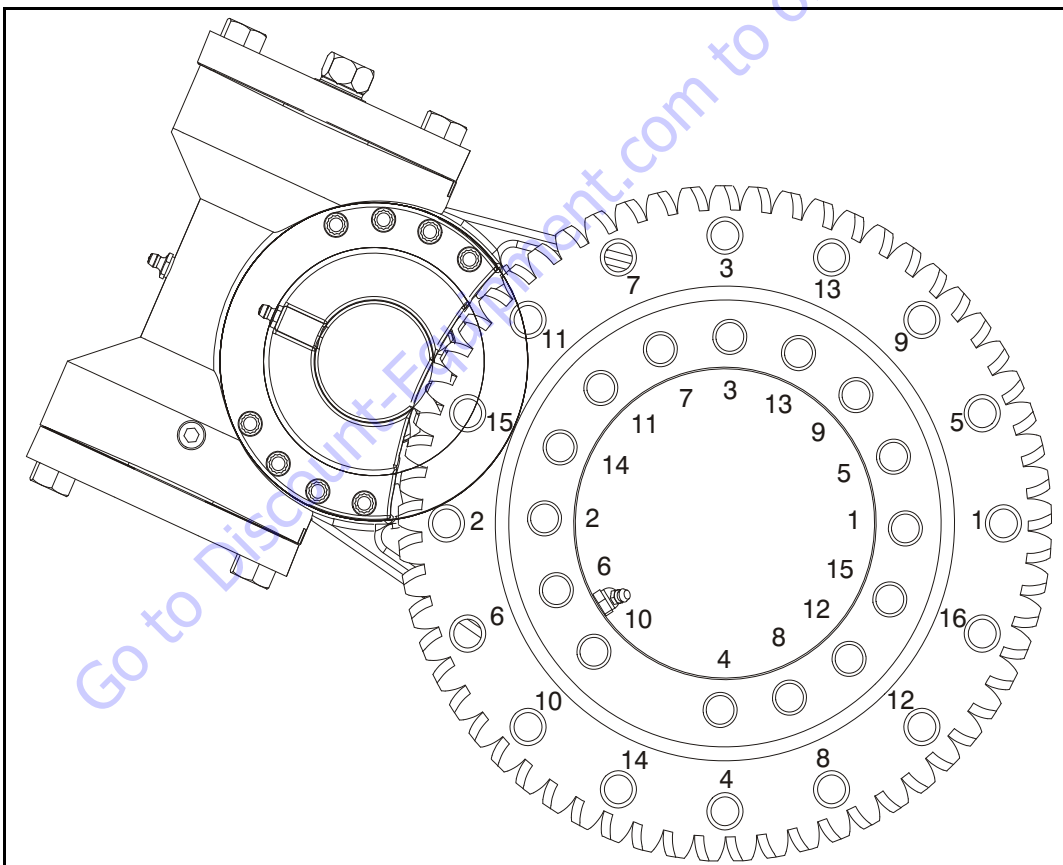

Figure 3-26. Swing Bearing Torque Sequence
- b. Line up high spot (blue) of bearing as shown below. Set backlash to 0.008 - 0.010 inch (0.20 - 0.25 mm). Tighten cap screws as shown in Figure 3-26., Swing Bearing Torque Sequence.
- f. Following the torque sequence diagram shown in Figure 3-26., Swing Bearing Torque Sequence, tighten the bolts to an initial torque of 140 ft. lbs. (190 Nm). Then following the same sequence, tighten to a final torque of 190 ft. lbs. (260 Nm).
- k. Following the torque sequence shown in Figure 3-26., Swing Bearing Torque Sequence, tighten the bolts to an initial torque of 150 ft. lbs. (200 Nm). Then following the same sequence, tighten the bolts to 210 ft. lbs (285 Nm).